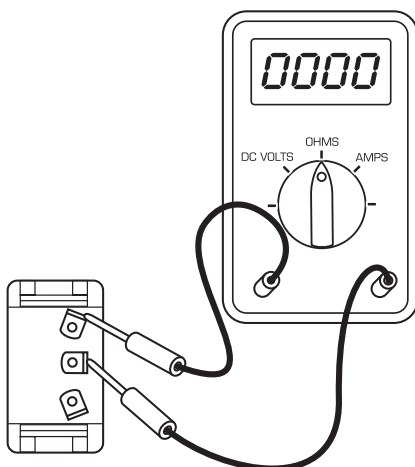

Figure 62
2. **Switch OFF.** Connect ohmmeter between momentary switch input power terminal and its bottom output power terminal (Figure 62). Ohmmeter must indicate **no continuity**.